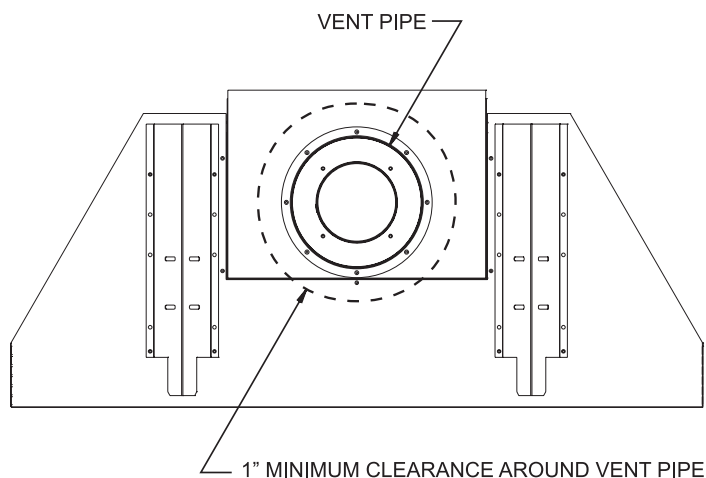
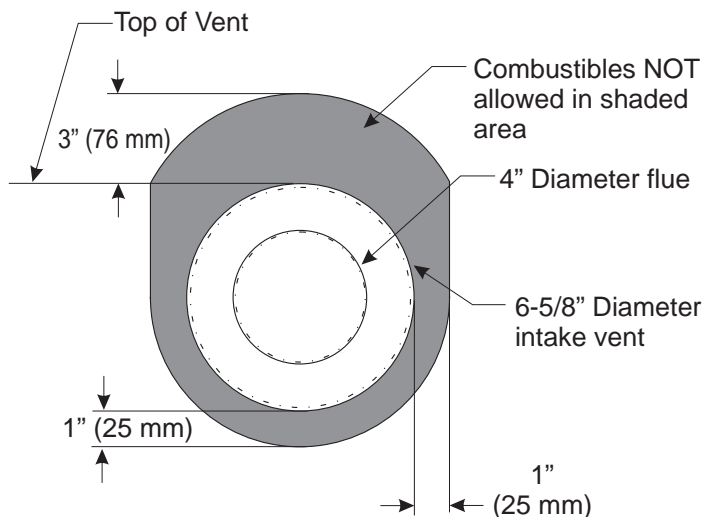

Figure 22
Figure 23 - Hard Pipe Vent Clearance
**NOTICE:** Maintain one inch of clearance to combustibles around vertical vent pipe. See **Figure 22**. For horizontal vent systems, maintain a minimum 1-inch clearance from the bottom and sides of the vent to combustibles and a 3-inch clearance above the vent pipe above the vent pipe to combustibles. See **Figures 23 and 24**.